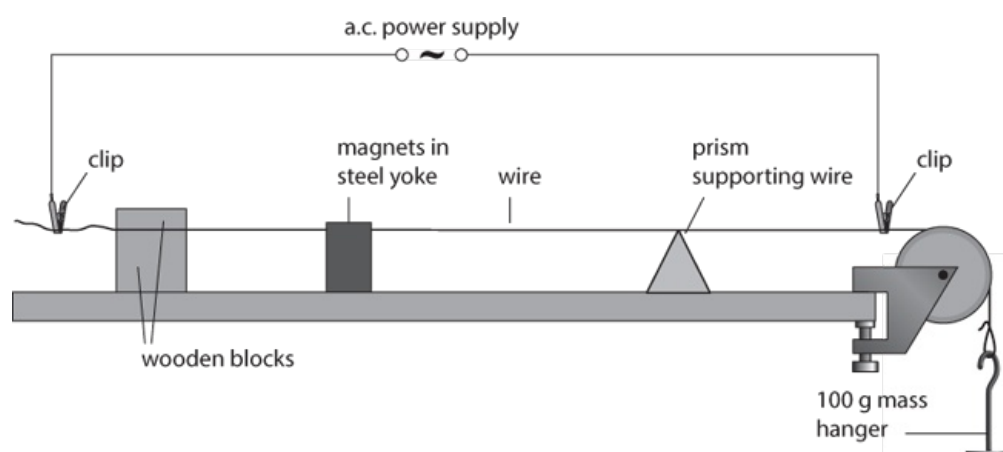

Figure 8.1: Circuit diagram with wire over pulley.
- 1 Set up the apparatus as shown in Figure 8.1.
- 5 Use clips and leads to connect the a.c. power supply to the wire at the points shown in Figure 8.1.